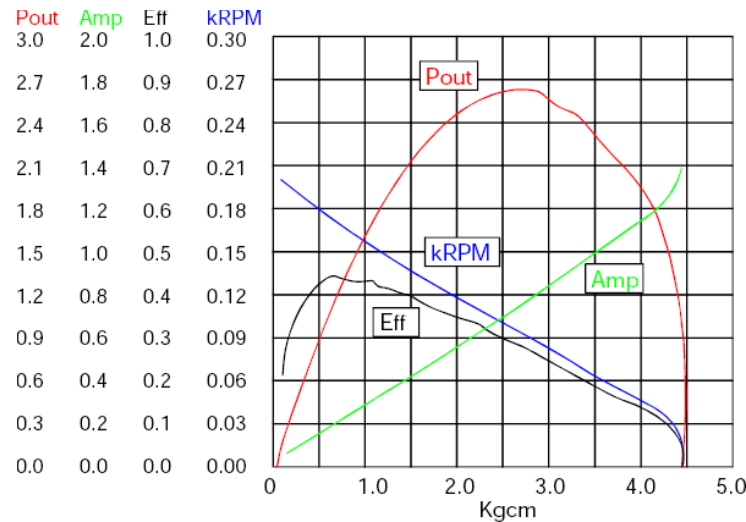

Figure 6.1: Motor Characterization Curves
1. This lab will use Lynx motion GHM-01 gear head DC motors. The characterization data of the gearbox output is specified with the curves in Figure 6.1. The figures include the gear box. The gear reduction is 30:1. From the curves below, estimate: